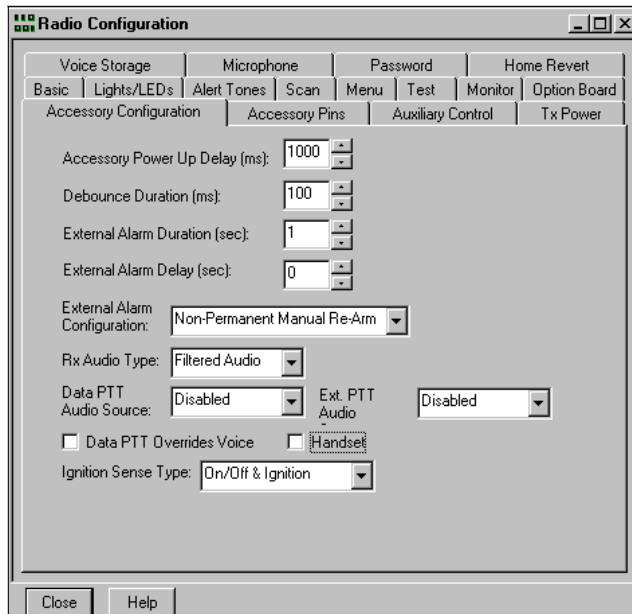

Figure 11-2. Radio Configuration, Accessory Configuration, Receive Radio
7. Click the "Ignition Sense Type:" dropdown arrow button. Select "On/Off & Ignition". Your screen should appear similar to see Figure 11-2.